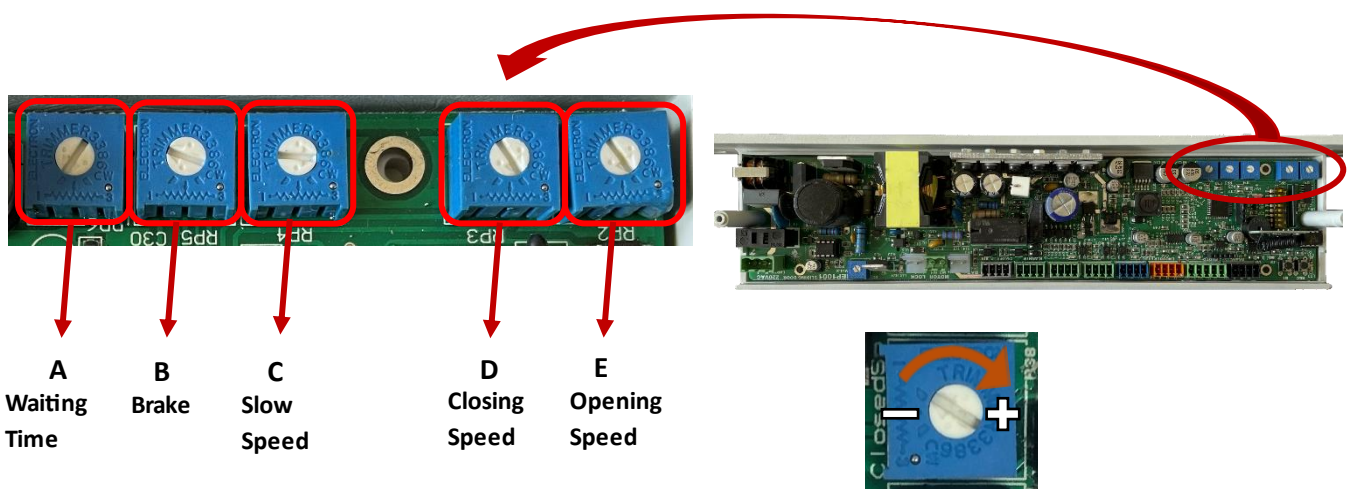

Figure 13: The position, close-up view, and rotation directions of the Service Adjustment.
13) Position Switch: Position switch socket is the socket where the position switch is connected. It allows the position switch to control functions such as one-way, lock, open, and winter mode. The input types and features are indicated in Figure 13.